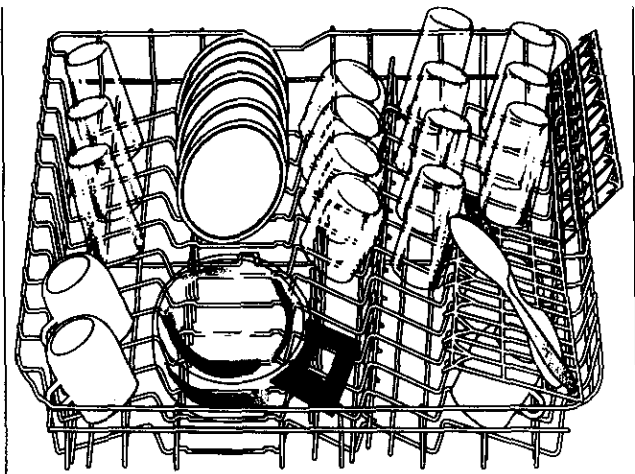

Figure 4.
- The upper silverware basket may be removed for additional space when not using TOP RACK ONLY™ feature. See Figure 4.